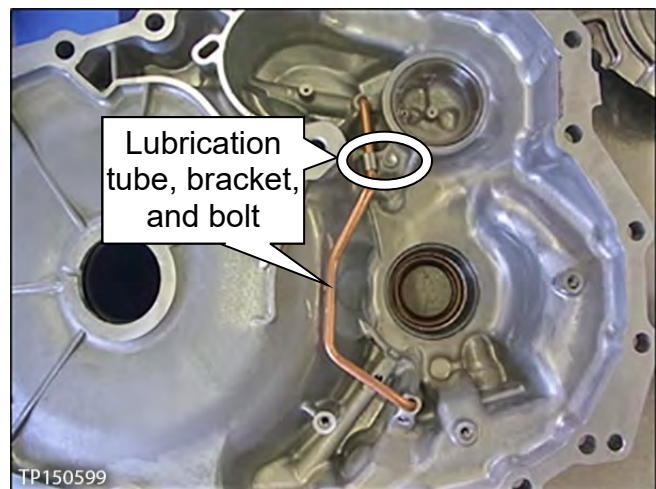

Figure 54
5. Remove the bolt, and then remove the lubrication tube and its bracket (see Figure 54).